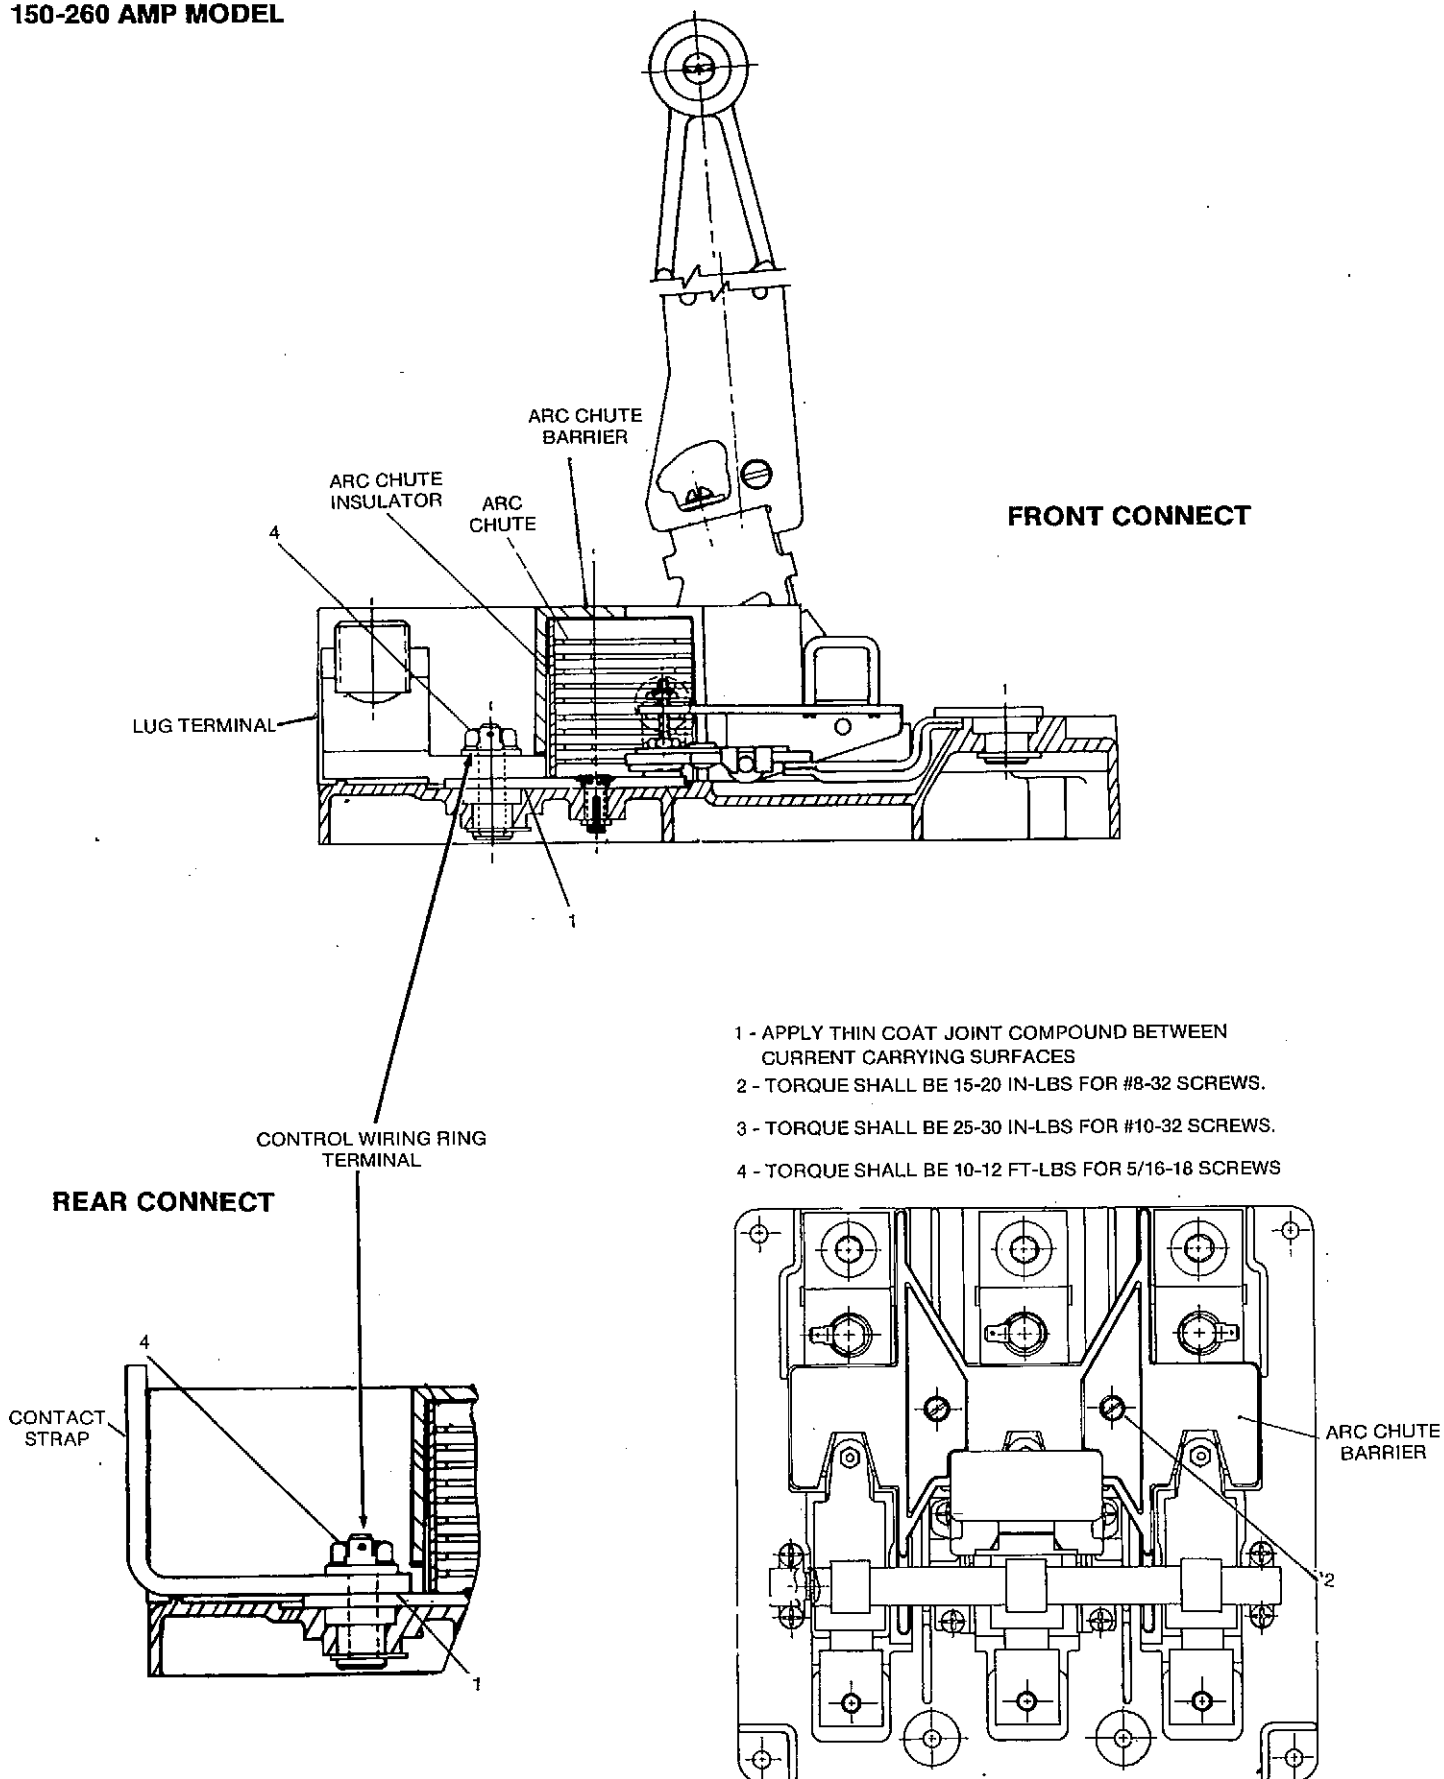

FIGURE 23. FRONT AND REAR CONNECT SWITCH ASSEMBLY
3. Remove the round head machine screws and mounting plate that secure the handle assembly to the switch assembly; and lift off the handle assembly (Figure 23).
12. Remove the round head machine screws, locking washers, and flat washers that secure the arc chute barrier (see Figure 23) to the switch assembly; and lift out the arc chute barrier, arc chutes, and arc chute insulators. Discard the arc chutes and arc chute insulators.
13. On **front** connect switches, remove the hex head capscrews, ring terminals, spring washers, and lug terminals from the switch assembly (see Figure 23).
On **rear** connect switches, remove the hex head capscrews, ring terminals, spring washers, and contact strap from the switch assembly (see Figure 23).